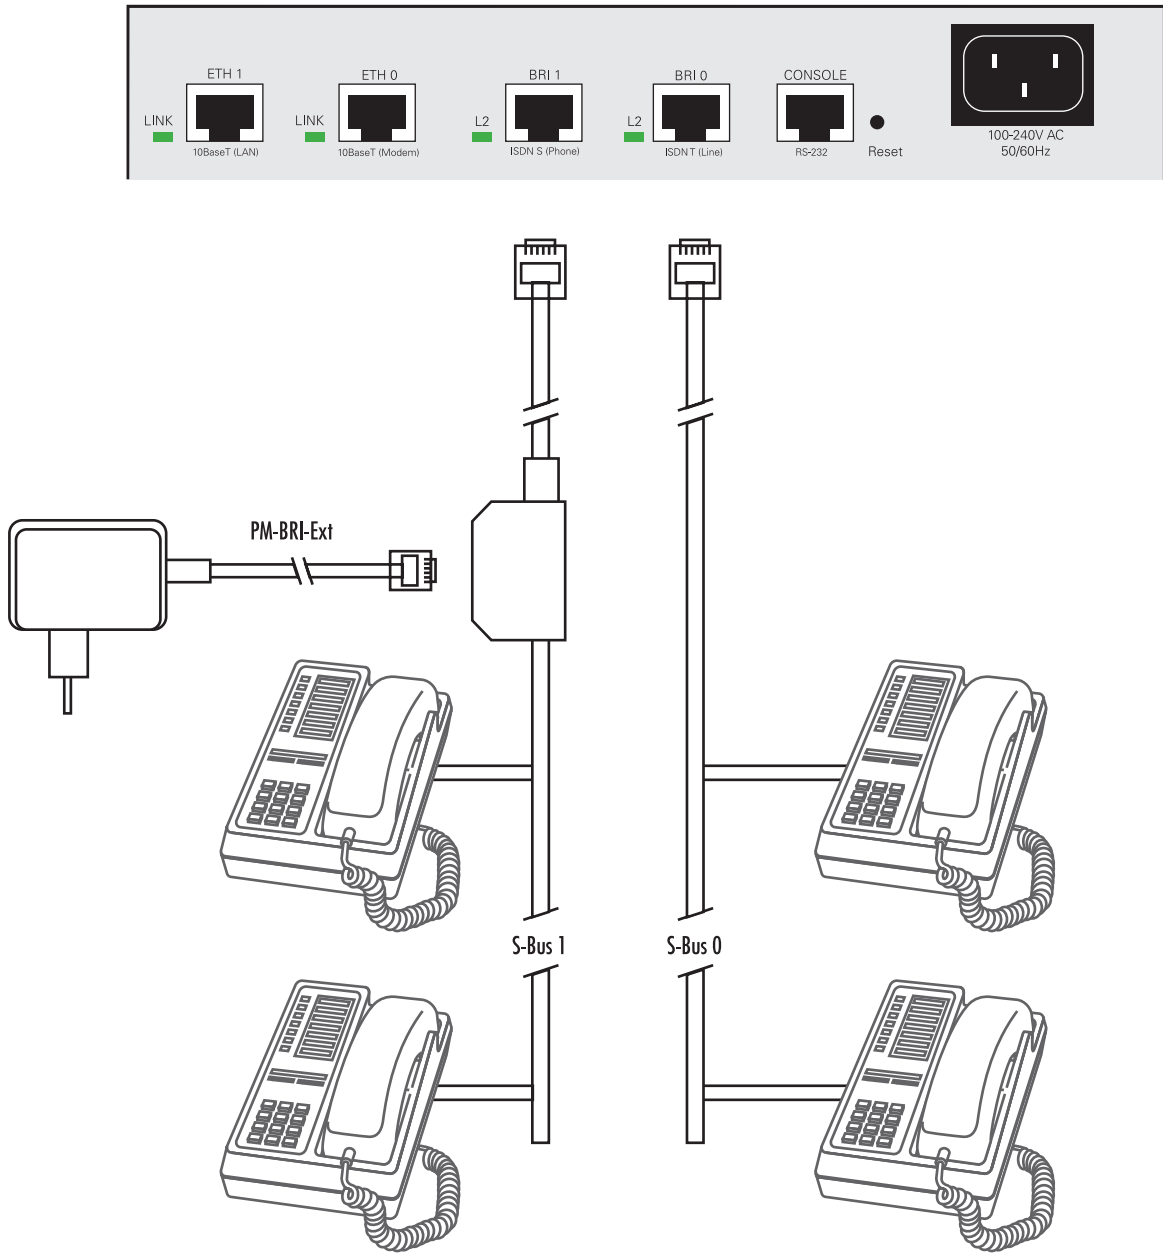

Figure 42. SmartNode 1200 external 40-VDC power supply
- The PM-BRI-EXT is connected to the S-Bus via an S-Bus multi-socket (see figure 42 on page 72).